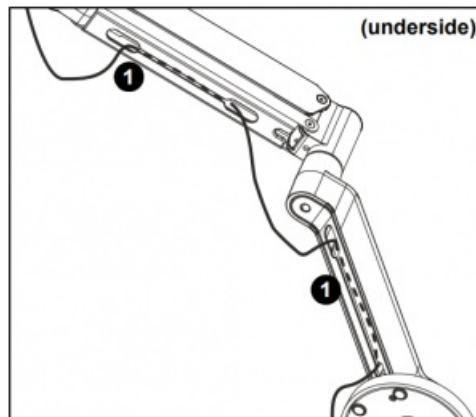

Figure 15
1. Tuck cables into channels located on underside of mounting arms. (See Figure 15)